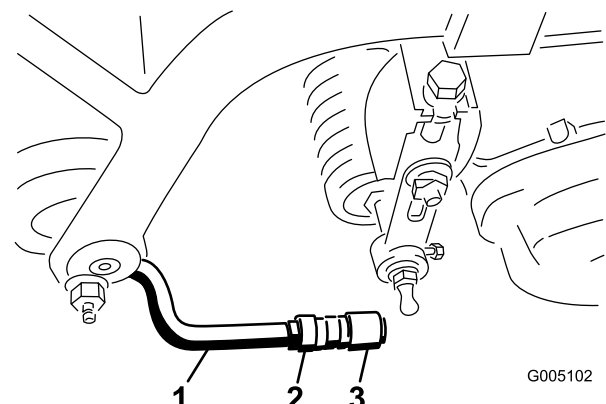

Figure 10
6. Align the sockets in the ball joints so the open side of the socket is centered towards the ball stud. Tighten the jam nuts to secure the sockets in position (Figure 10).